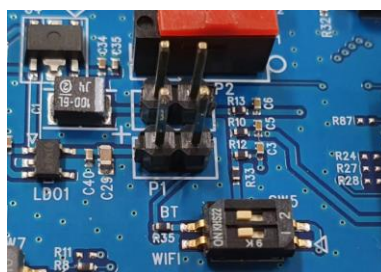

Figure 53: Setup DA16600 EVB Jumper
3. Open the DA16600 EVB's power two jumper caps as shown in Figure 53.